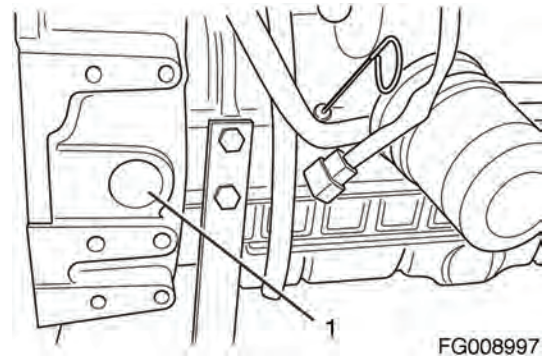

Figure 278
6. Using a wrench on the crankshaft pulley bolt, rotate the crankshaft in a clockwise direction while looking through the flywheel inspection port (1, Figure 278). Rotate the crankshaft until the injection timing marks on the flywheel are visible.